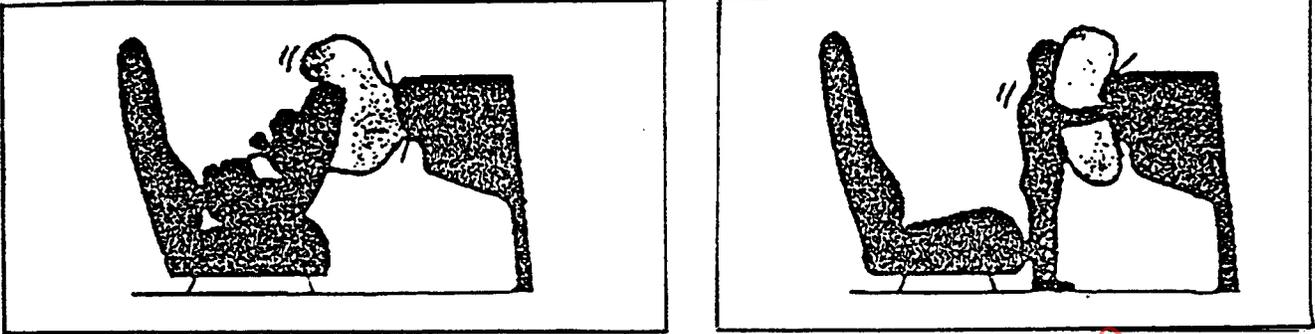

FIGURE 2—HOW AN AIR BAG AFFECTS INFANT/CHILD RESTRAINTS OR A STANDING, OUT-OF-POSITION CHILD
- 6. Child Restraints and Air Bags**—Children or infants riding in a motor vehicle must always be properly restrained. This is especially true in vehicles with air bags. Children, as with any occupants that are not properly restrained, are at a much greater risk of injury in a crash. There is also the additional risk of injury from the inflating air bag if the child is near or against it as it inflates (Figure 2). The best way to minimize that risk is to have the child properly restrained in the rear seat of the vehicle.